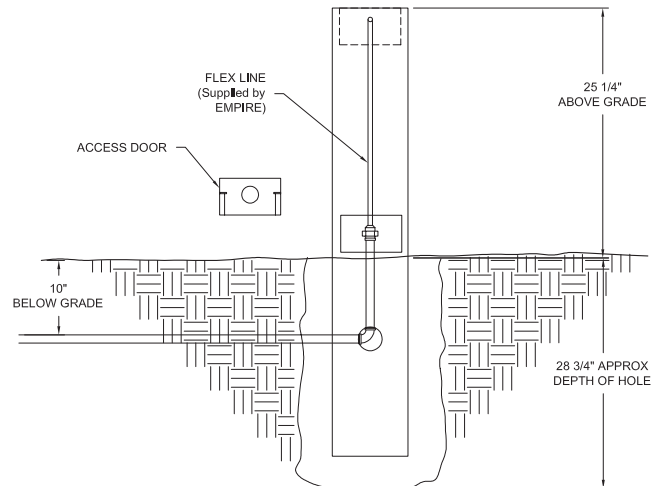

Figure 1
At the access door connect a 3/8" flare coupling (not supplied by Empire) to the gas supply line and stainless steel tubing. Position the tubing in the top notch of the post. Bend the flex tube at the top end to match the Feed Line of the grill valve. **See Figure 1.**
- The rectangular cut-out is located near the TOP of the post and should be above ground after installation. See Figure 1.